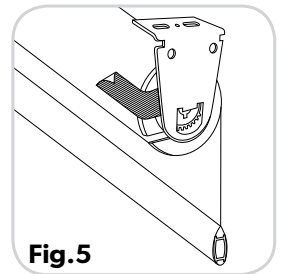

Fig.5
- D. Once the roller shade is mounted, remove the blue tape from the tension wheel end. (Fig. 5)